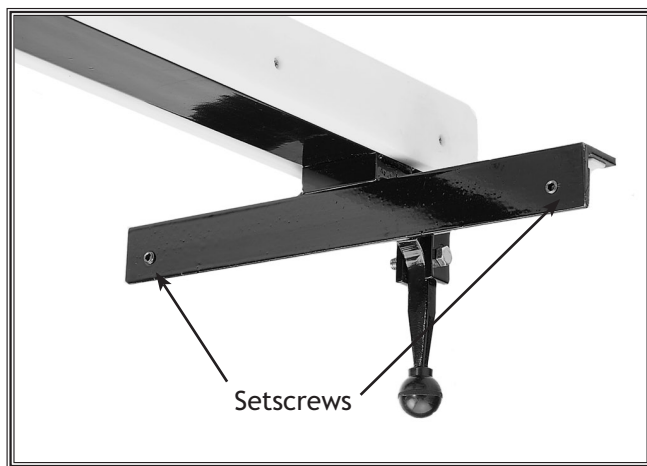

Figure 9. Setscrews on bracket.
1. Locate the two setscrews on the lower edge of the fence bracket. See **Figure 9**.